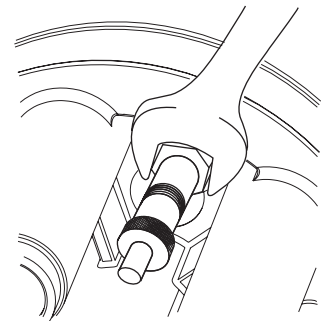

Figure 22
- Install the valve stem into the grounding port as shown in Figure 22.